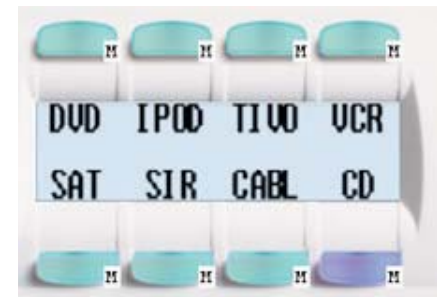

Figure 28: LCD Panel with source names/icons.
2. Type a name/icon for the source ("DVD", "iPOD", etc.). The name/icon can be up to four characters. The new name/icon will appear in the LCD Panel (see Figure 28).